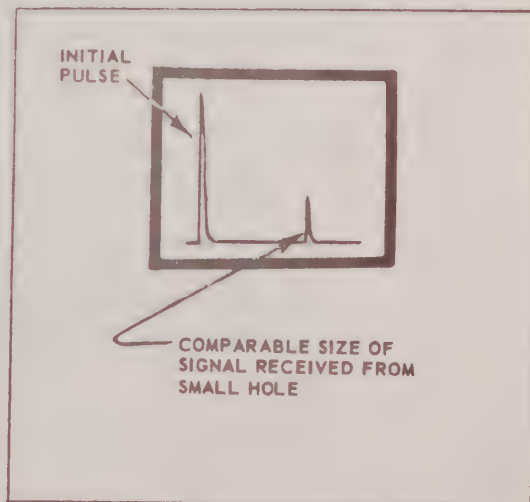

Figure 3-11 Various CRT Hole Reflections
- (16) Move search unit over small hole and note the difference in size of hole indications. (Figure 3-11).